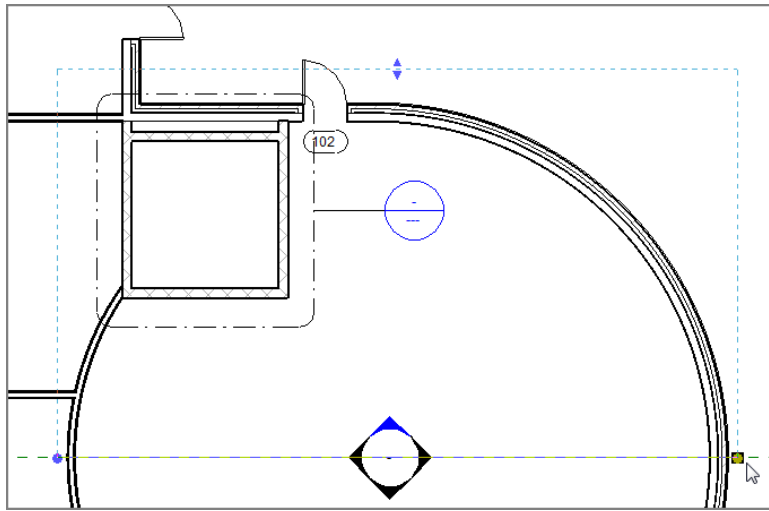

FIGURE 3.84: Making the adjustments to bring the view back into a reasonable range
3. Select the East Wing Entry North Elevation again. Notice that the view's extents are stretching past the entry atrium. Pick the blue grips at the end of the elevations, and bring them into the atrium area, as shown in Figure 3.84. Also, drag the view limit up to show the radial exterior wall (see Figure 3.84).